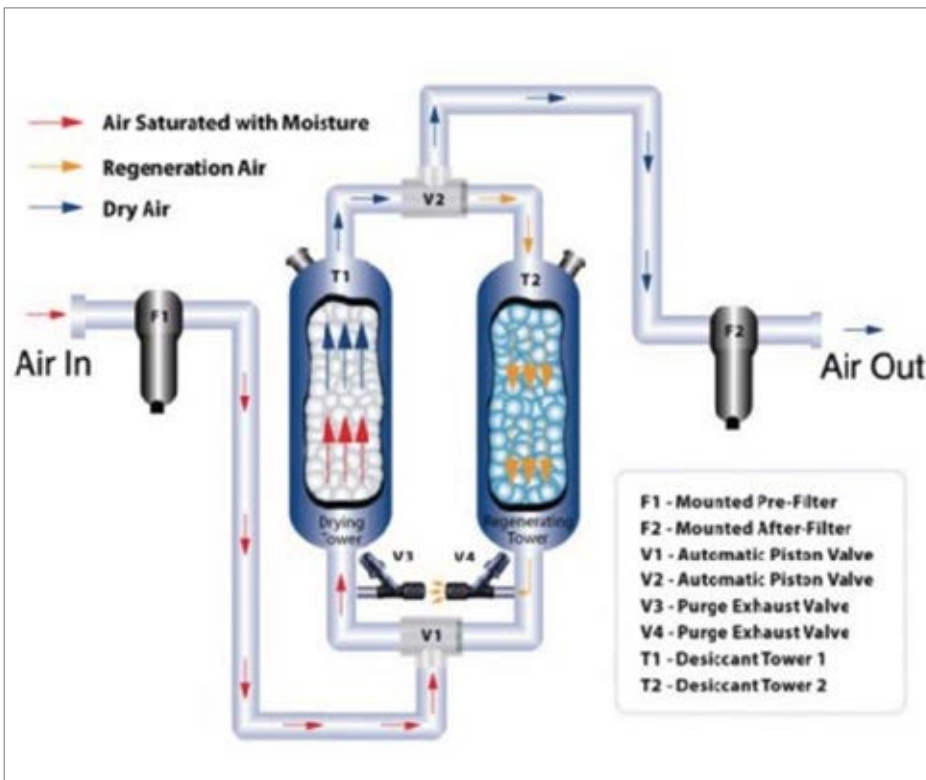

Figure 7. Typical Regenerative Air Dryer Diagram
Refer to Figure 7 for a typical regenerative air dryer diagram, most are similar. The four most common types on the market, based on the type of regeneration method, are as follows:
1. Heatless Regenerative (shown in Fig 7): Use about 15% of dry “purge” air to regenerate offline tower, about 10 minute total cycle,  $-40^{\circ}\text{F}$  dewpoint. They use approximately 15% energy to dry.